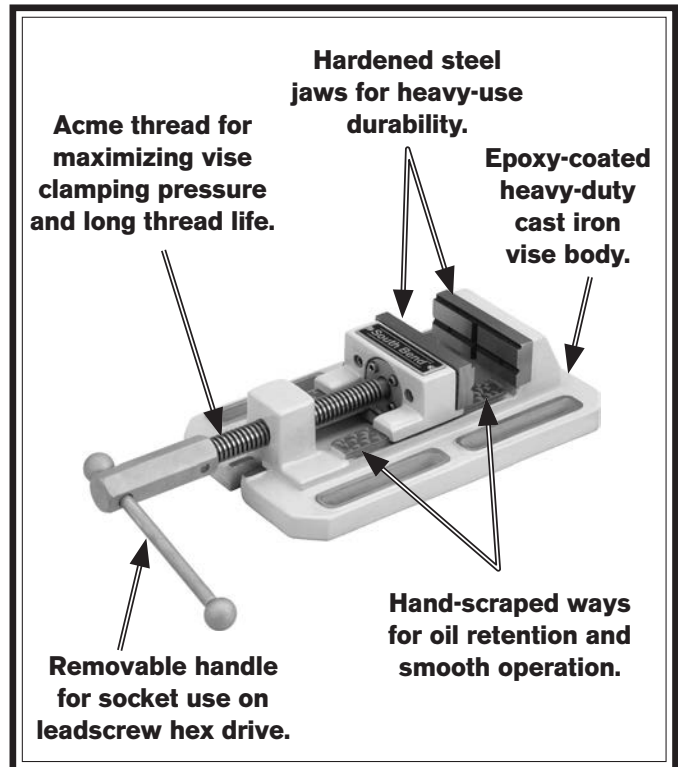

Figure 1. Features.
3. Position the workpiece between the jaws and tighten the jaws with the handle. Never use a cheater pipe to increase leverage, or you may damage the vise. If you like, unthread the knob and remove the handle (**Figure 1**), so that a socket and ratchet can be used on the end of the leadscrew drive hex. However, never use any type of impact wrench to tighten the leadscrew.